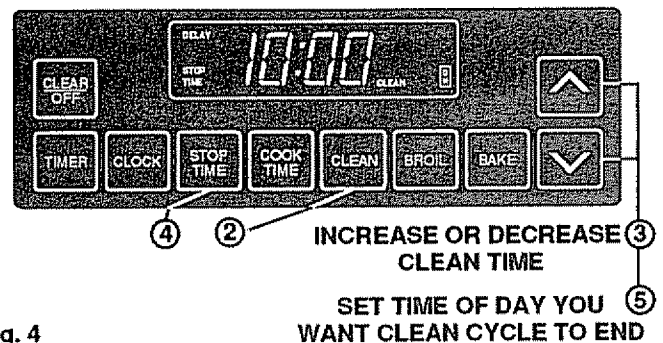

Fig. 4
5. Set the time of day when you want the clean cycle to end. See Fig. 4.